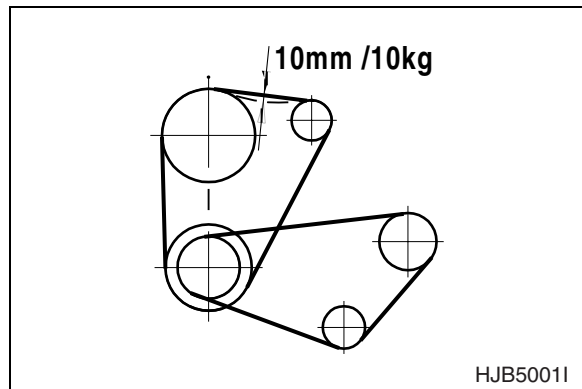

Figure 45
2. With the engine shut off, check the tension of the fan belt by pressing downwards on the belt, midway between the fan pulley and alternator pulley. The belt should flex approximately 10 mm (0.500 in). See Figure 45. To adjust the belt, loosen the alternator adjustment plate bolts, adjust the belt tension and retighten the bolts.